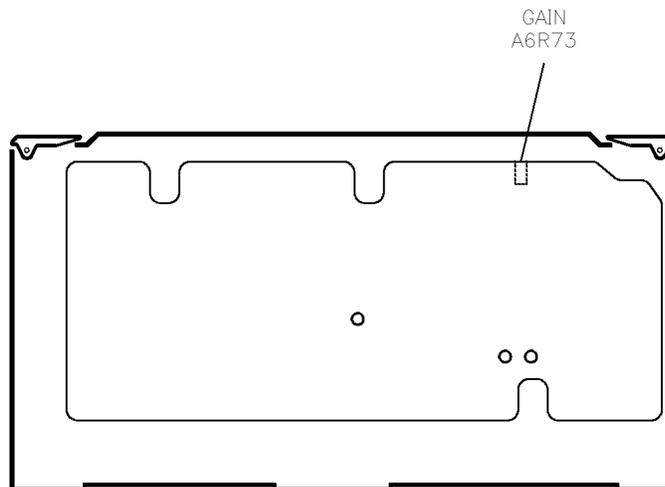

Figure 3-9. IF Gain Adjustment Location
14. Adjust A6R73 (see Figure 3-9) to center the “needle” on the display.